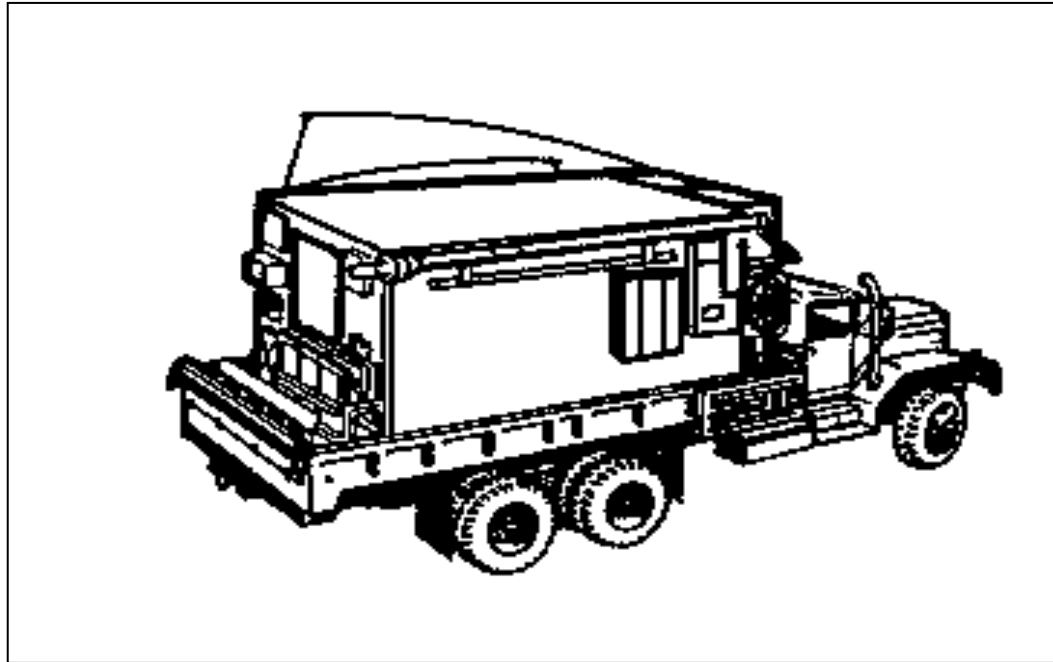

Figure 2-7. March-ordered ECS
**ILLUSTRATIONS:** Figure 2-7.
(1) Show the crew members how the ECS should be march-ordered using a diagram, Figures 2-7, a sand table, or a simple sketch in the dirt.
(2) Tell crew members what their duties are in the drill.
(3) Read the performance measures of the drill to the crew members.
(4) Have each crew member explain their performance measures to ensure that they understand them.